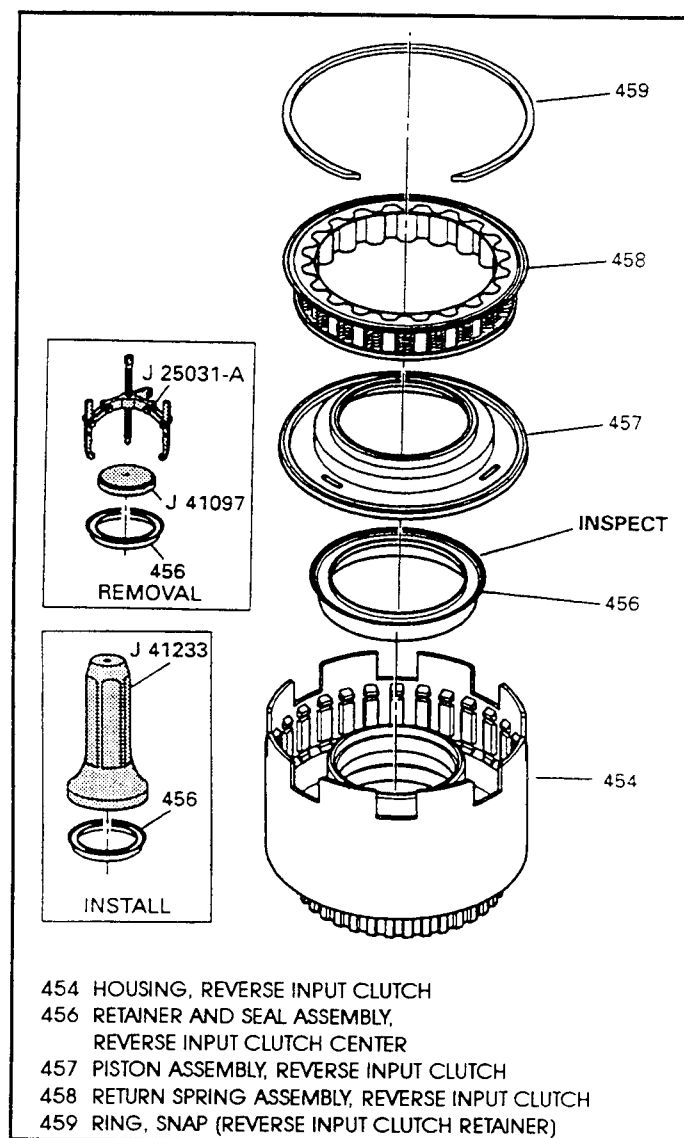

Figure 146
2. Inspect reverse input clutch inner seal assembly (456) for any damage (See Figure 146).
3. If the seal is damaged, remove the seal using removal tools J-25031-A and J-41907, shown in Figure 146.
4. Press a new inner seal assembly onto reverse input housing inner hub using an arbor press and tool J-41233 (See Figure 146).
6. Lubricate both seal surfaces with "Trans-Jel", and install the reverse input clutch piston into reverse input housing with a twisting motion (See Figure 146).
7. Install the reverse input clutch return spring assembly (458) on top of piston with smaller outside diameter down (See Figure 146).